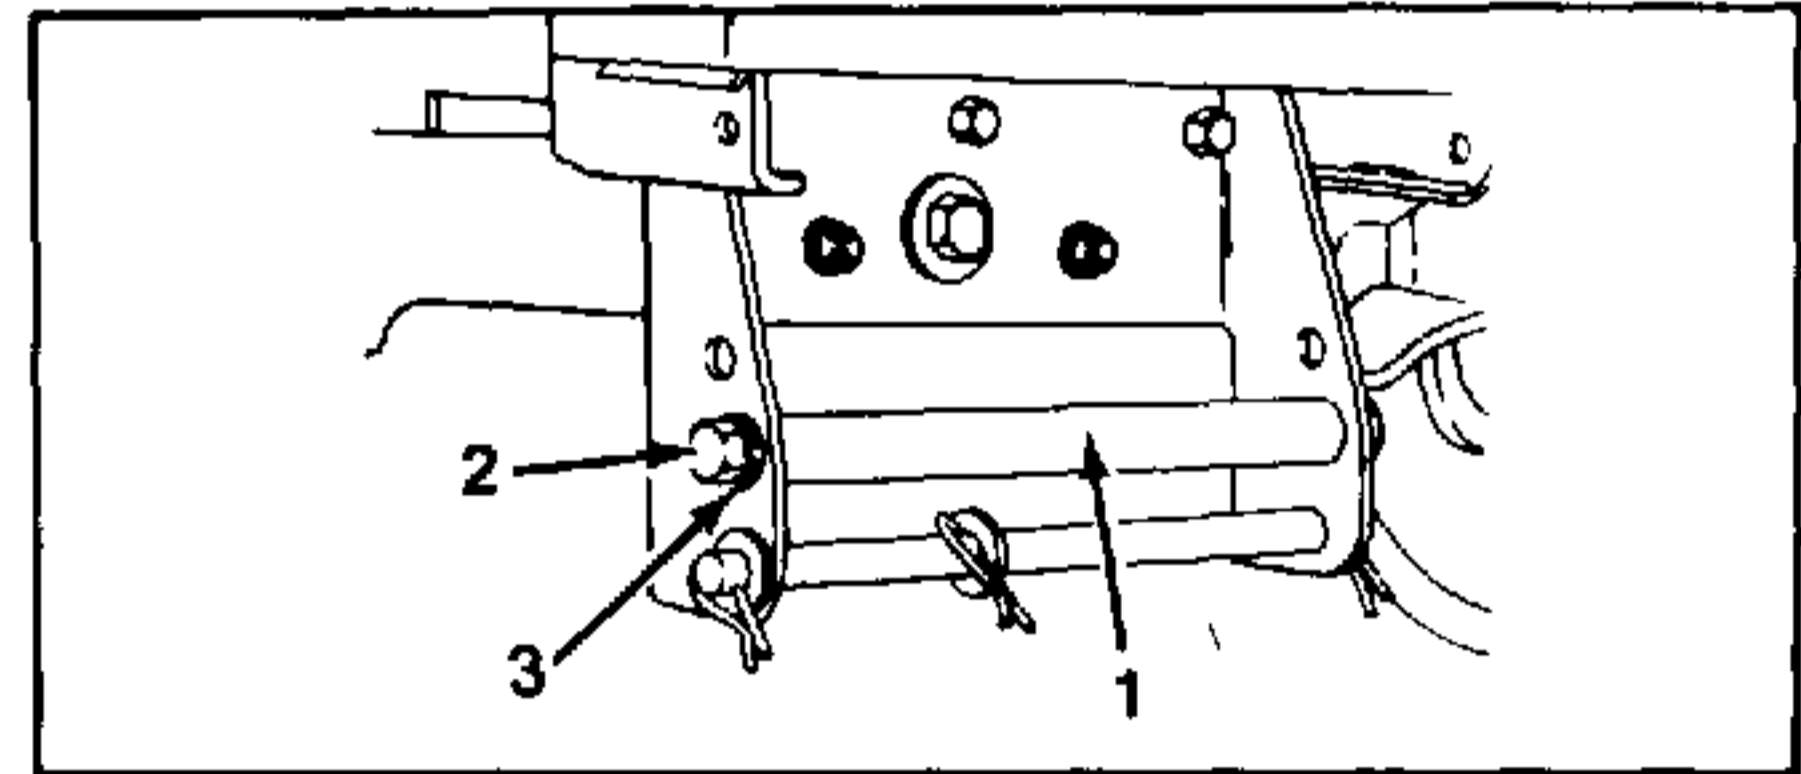
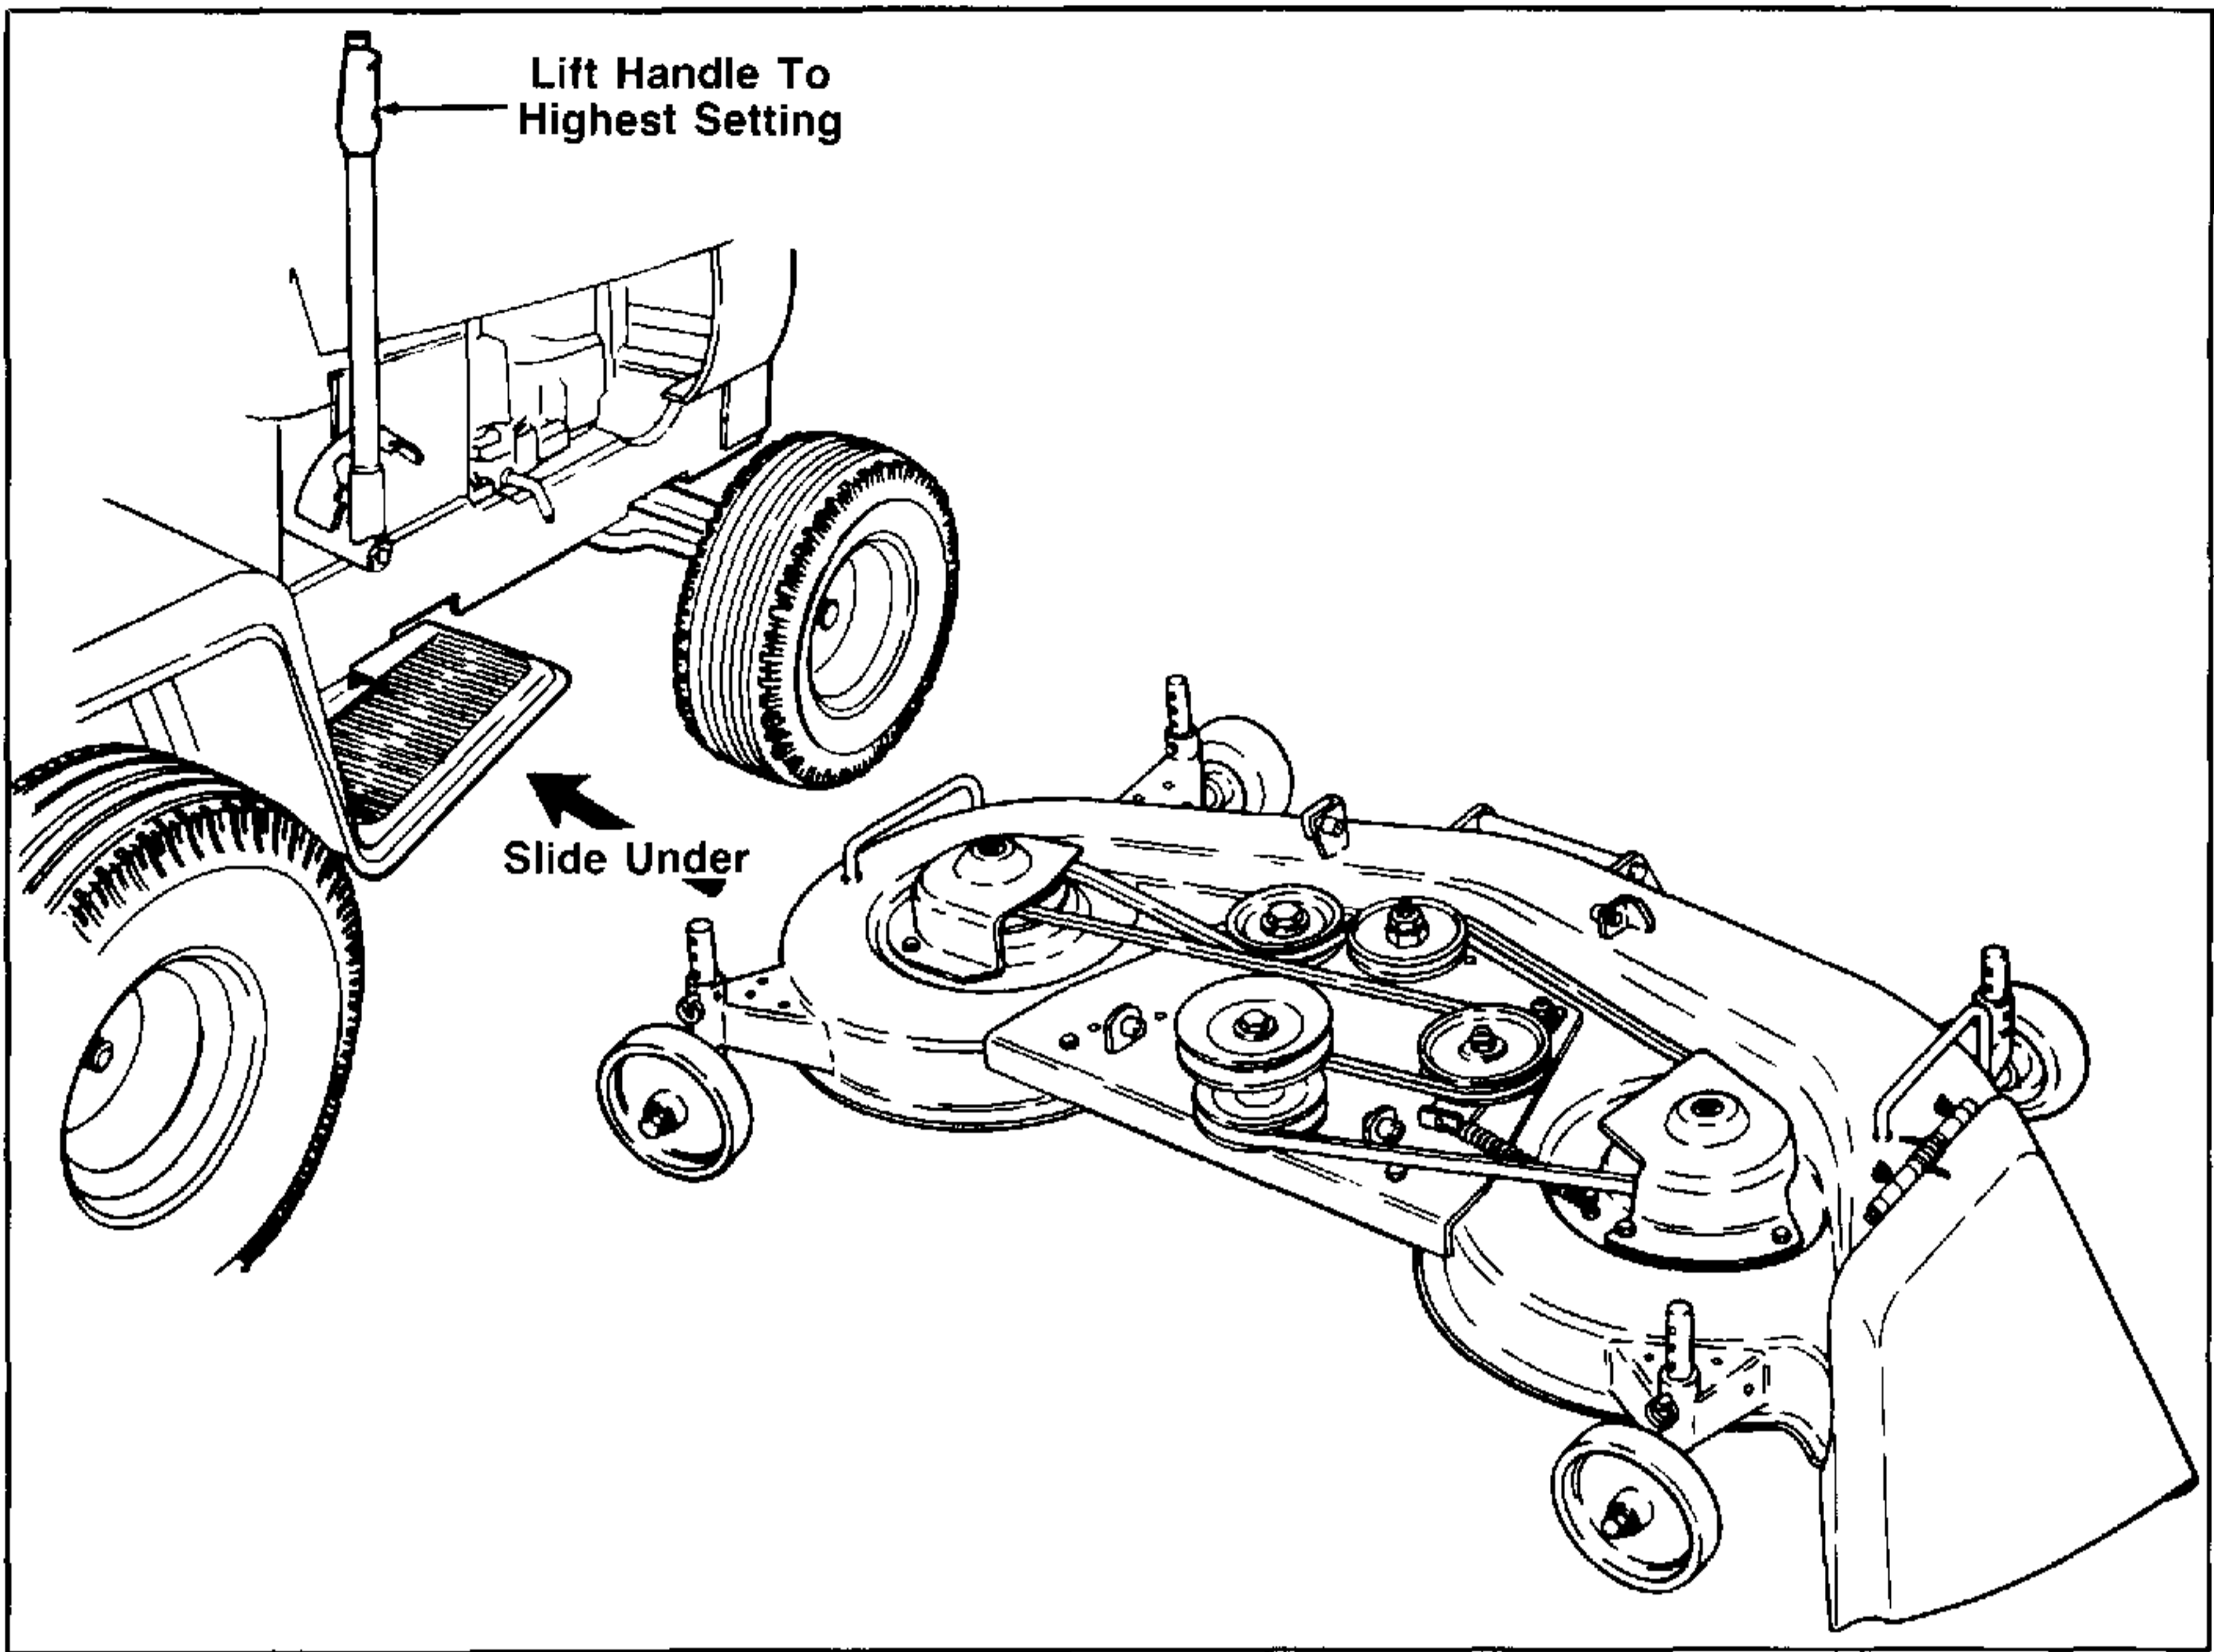
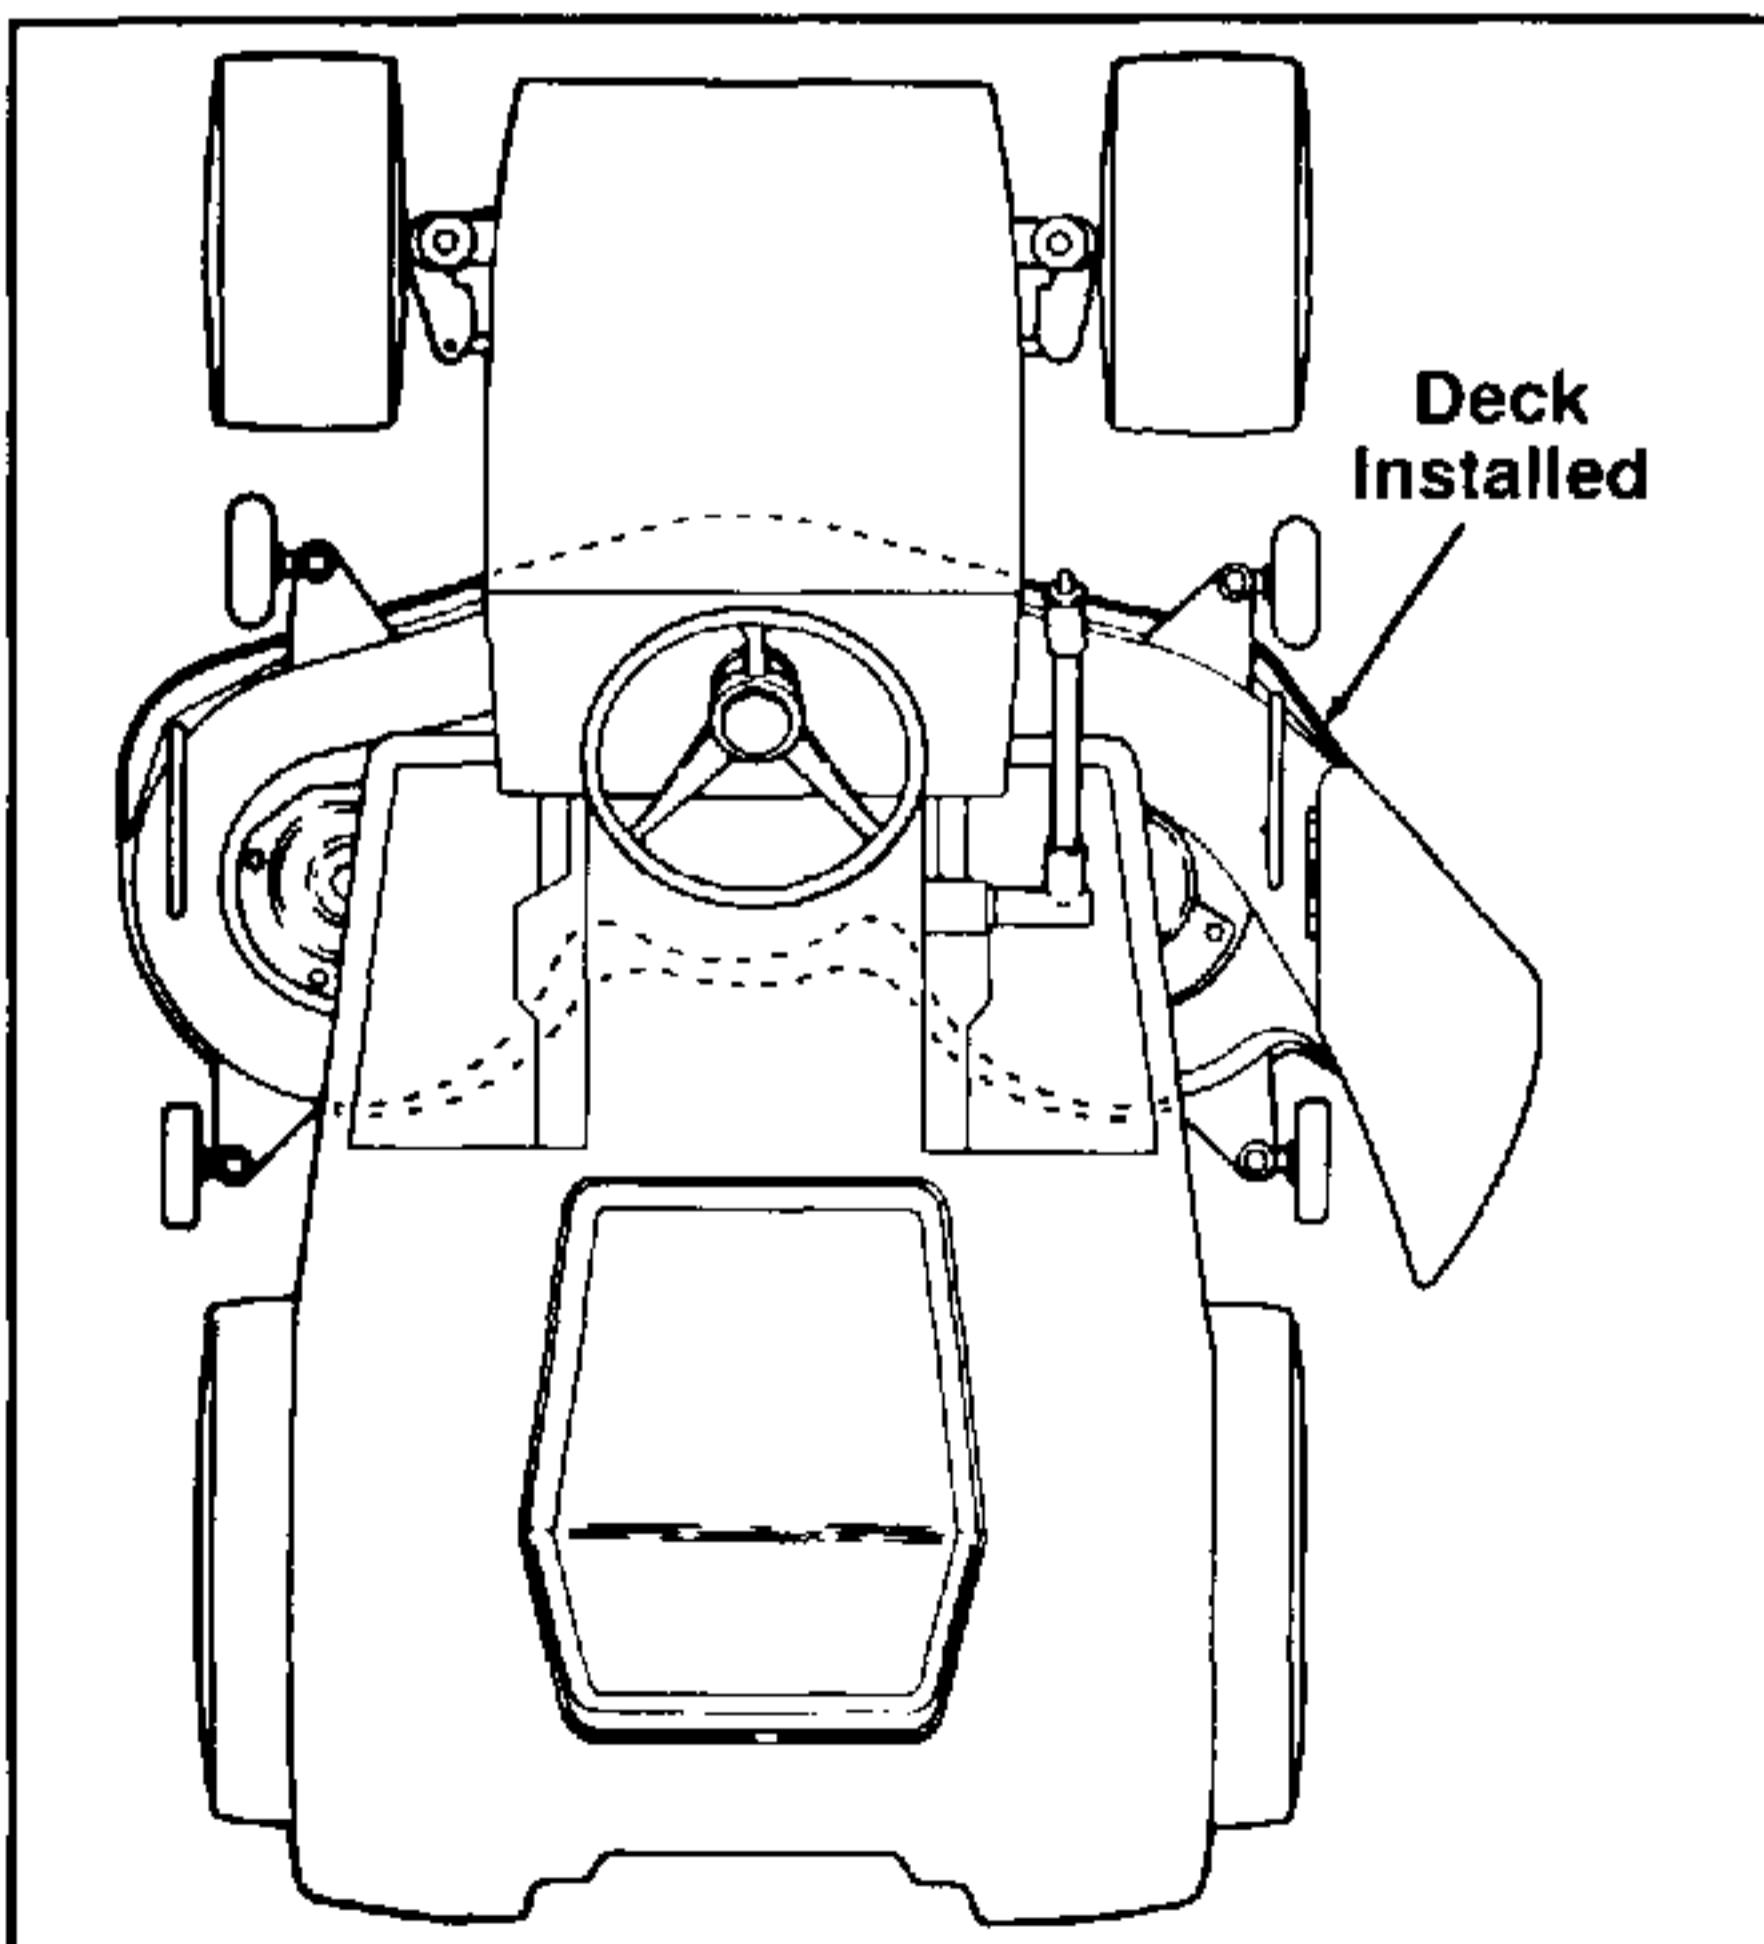

FIGURE 5.
FIGURE 9.
FIGURE 10.
5. Raise the lift handle to its highest setting as shown in figure 9, and make sure the head of stop bolt is touching frame. See figure 5.
4. Raise the lift handle to its highest setting. Refer to figure 9 and place the deck on the right side of the tractor, with the front of the deck facing toward the front of the tractor. Slide the deck under the tractor until it is aligned with the tractor as illustrated in figure 10.
9. Raise the lift handle to its highest setting. Reposition the ball wheels and the gauge wheels as shown in figure 10 by first retracting the quick release pin and then rotating each wheel outward 90 degrees. Wheels must remain at lowest position at this time. Resecure each wheel with a quick release pin.